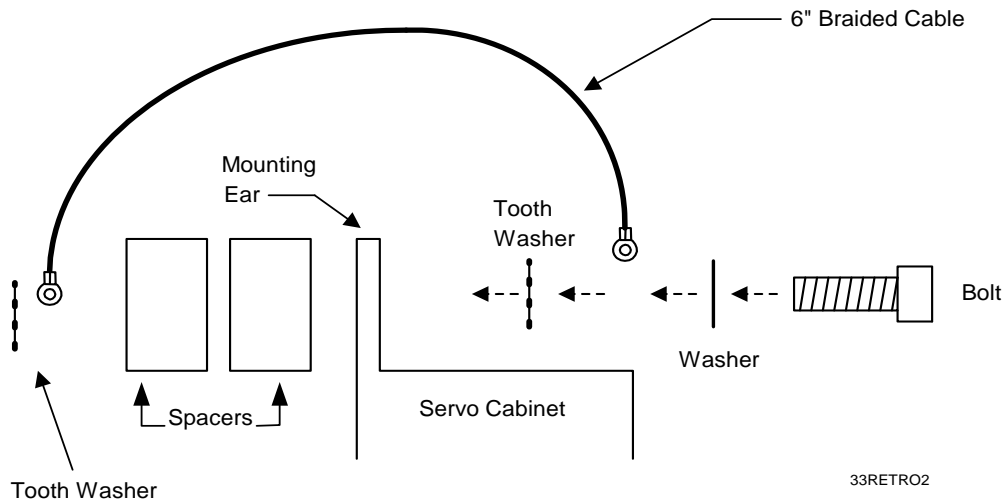

Figure 3-2, Installing the Grounding Harness on the Enclosure
12. Locate two 3/8-16 x 1-1/4" Allen screws, P/N 86100580, two 3/8 washers, P/N 86300174, two flat washers, P/N 86300203, and 1/8" spacers, P/N 85600058. Refer to **Figure 3-2, Installing the Grounding Harness on the Enclosure.**